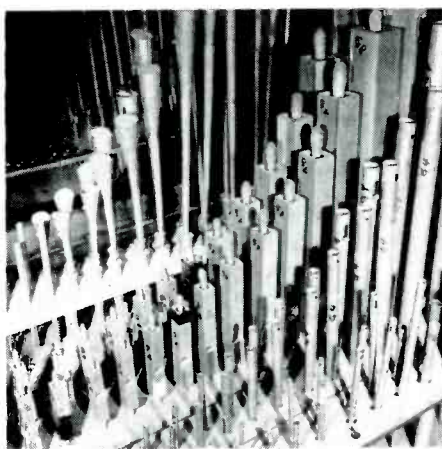
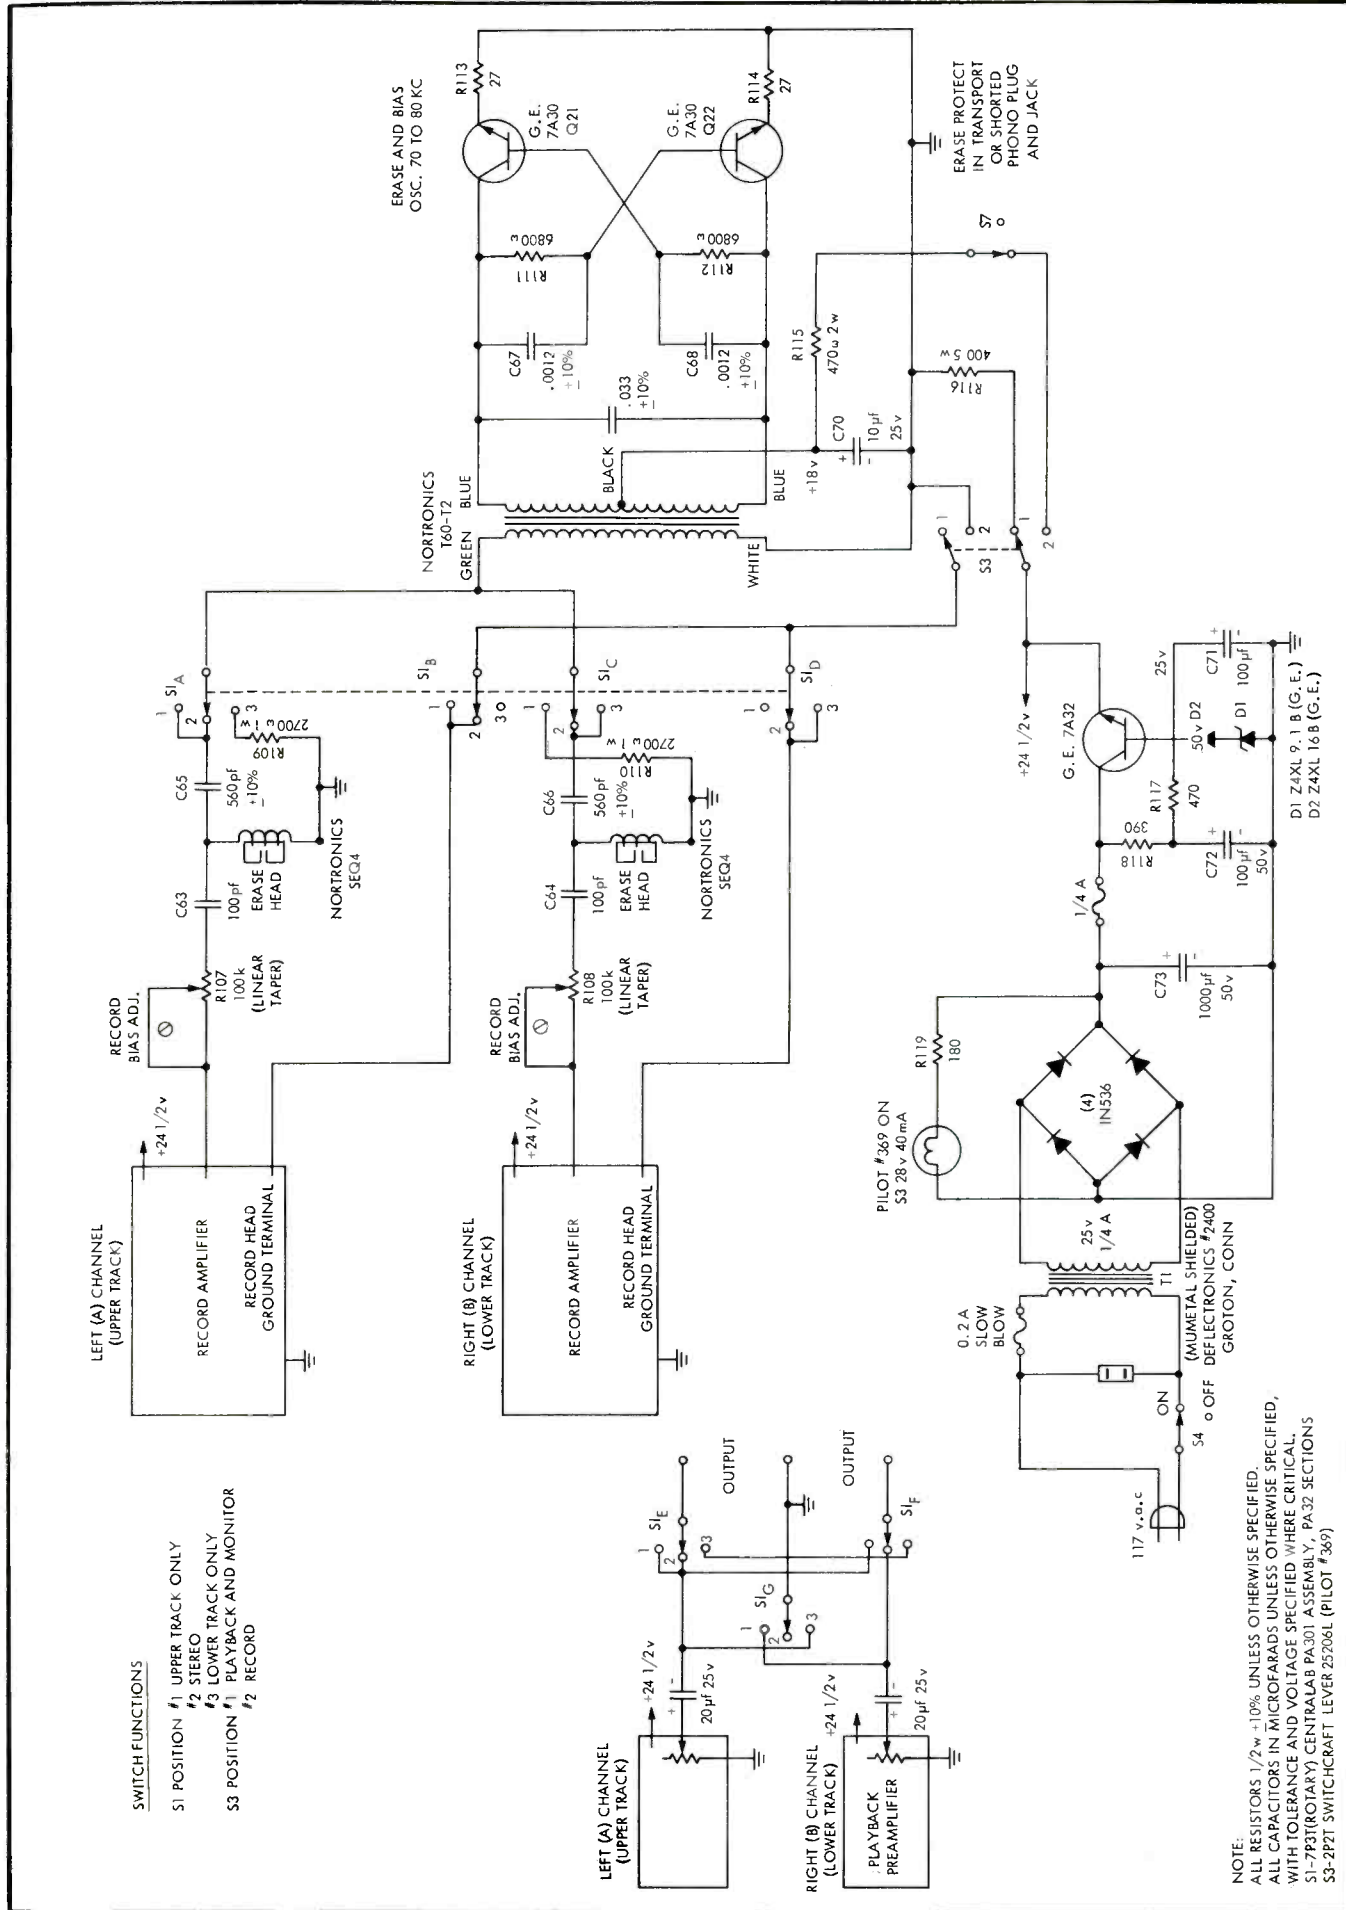
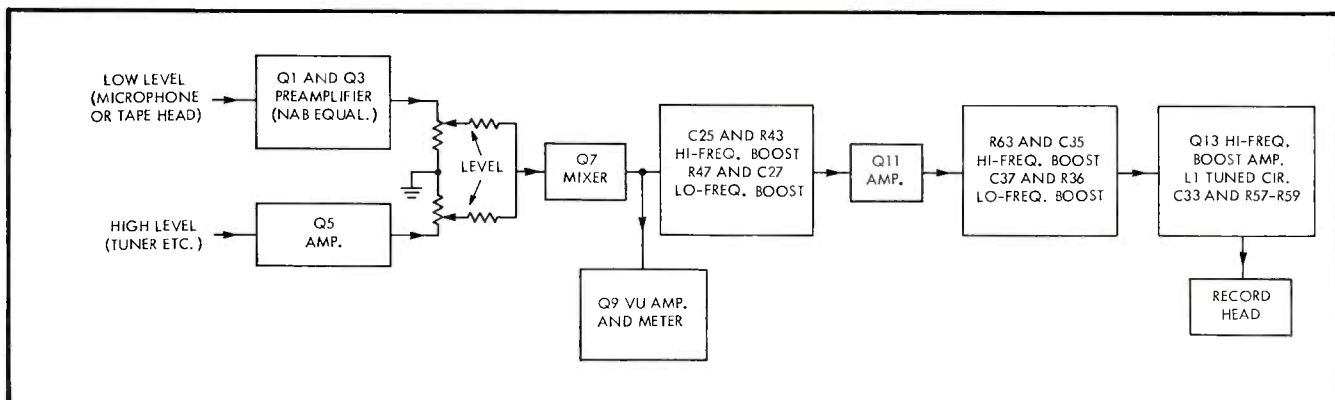

Fig. 1. The Great Division of a Small Pipe Organ.
Fig. 2. Schematic of silicon transistor stereo tape recording circuit.
Fig. 3. Record amplifier.
Fig. 2. The five middle C pipes of the Great. From left to right they are: (A) Quinte, 1-1/3-ft.; (B) Fifteenth, 2-ft.; (C) Principal, 4-ft.; (D) Gedact, 8-ft.; and (E) Oboe, 8-ft.
the organ is to be used in a non-reverberant home environment. Organ pipes do not have an instantaneous attack. Figure 1 shows some of the pipes of the Great division of my organ. There are five stops (i.e. five ranks of pipes) on the Great of this organ. All five of the middle C pipes are shown in Fig. 2. The middle C of the 8 ft. Gedact, shown at D, takes about 15 cycles to build up to full amplitude after wind is admitted to it by the electro-pneumatic slider and pallet chest upon which it is planted. Further, when the wind is cut off, it takes about the same time to stop sounding. Since the frequency of this pipe is roughly 260 cps, this corresponds to an attack time of $15/260$ second or a little less than 60 millisecond.
Figure 2 shows the stereo tape record playback system using generally available silicon transistors. A block diagram of the record amplifier portion is shown in Fig. 3 for clarity. Referring now to Fig. 4, we will examine the record amplifier in greater detail. The low-level preamp circuit of the record amplifier utilizes feedback components R_9 and C_7 , or R_7 and C_5 . The latter serve to provide NAB equalization for a $7\frac{1}{2}$ ips tape head signal. The input impedance as seen by the microphone is 47k ohms, flat from 20 cps to 15 ke, and a low impedance microphone could be used with $R_9 = 330k$ and $C_7 = 0.1\mu f$.
Switch S_{2A} selects the record bias current for the different tapes and speeds. The tape erase and bias oscillator is shown in Fig. 2. It provides ample power to give a minimum of 60-db erasure of saturated tape (at 400 cps) with a stereo erase head. This is accomplished with at least 10 ma of 76 ke signal in the Nortronics SEQ4 erase head.